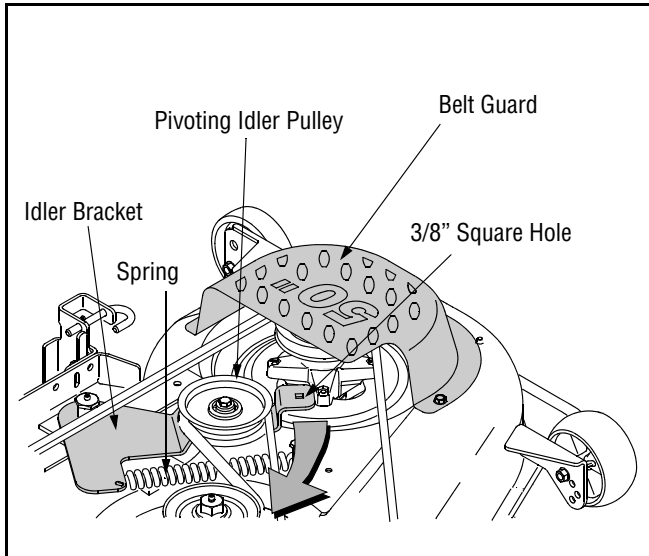

Figure 24
- To ease in removing the belt in later steps, loosen, but do not remove, the bolt which secures the pivoting idler pulley to the idler bracket. See Figure 24.
- Insert a 3/8"-drive ratchet wrench (set to *tighten*) into the square hole found in the idler bracket on the left side of the deck's surface. See Figure 24.